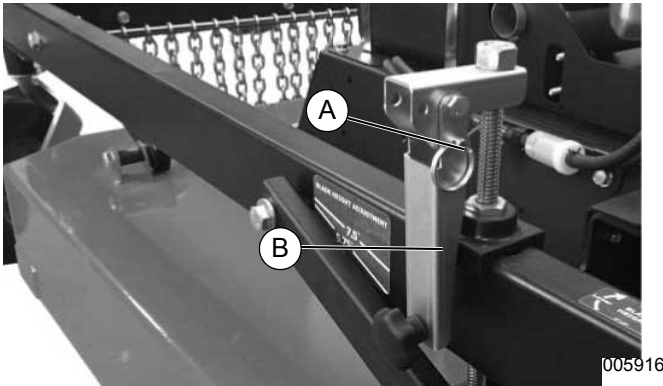

Figure 3-6. Height Adjust Locking Pin
1. See Figure 3-6. Remove locking pin (A) from height adjuster (B).